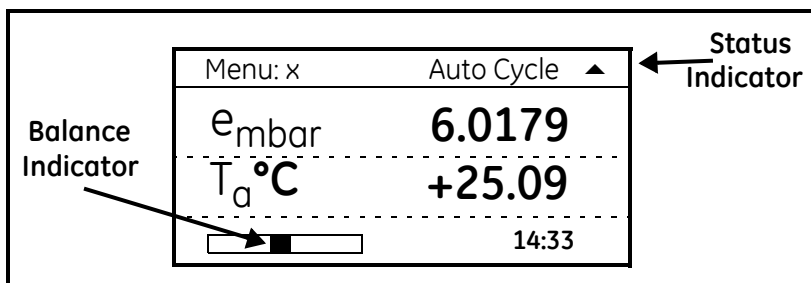

Figure 5-1: Balance and Status Indicator on OptiSonde Display
- The balance indicator (shown in Figure 5-1 below) provides a graphic display of how much light is received by the mirror's photodetector. It is also an indicator of the dew layer thickness. This indicator increases and decreases in digital steps.